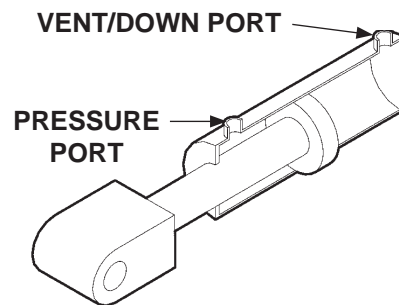

FIG. 67-1
4. Check the hydraulic cylinder. With the platform on the ground, remove the breather plug or vent line from the vent/down port of the cylinder (**FIG. 67-1**). Raise the platform even with the bed. Allow pump motor to run two seconds more while you watch for hydraulic fluid at the vent/down port. A few drops of hydraulic fluid escaping the vent/down port is normal; however, if it streams from the vent/down port, piston seals are worn. Replace seals.